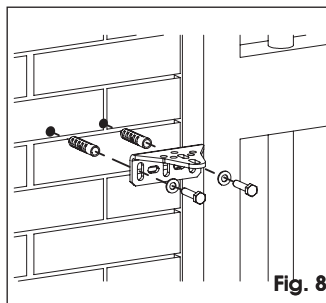

Fig. 8
1. Secure the fixed part of the rear bracket in the position determined previously, using suitable assembly systems. In the case of iron pillars, the bracket may be welded directly to the pilaster, see figures 8 and 9.